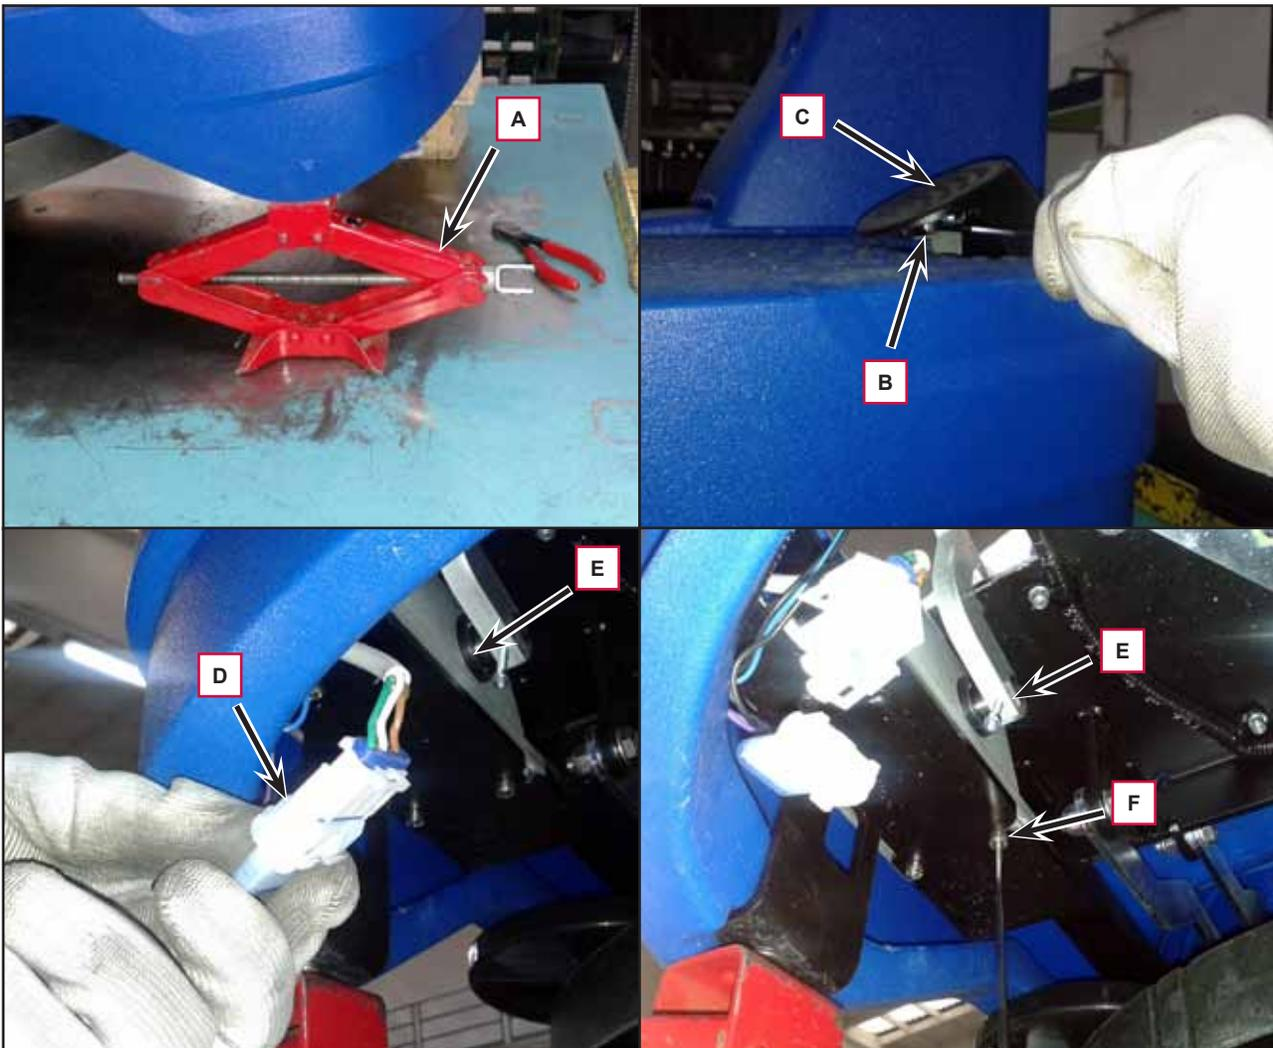

Figure 4
3. Lift the machine as shown (A, Figure 4).
4. Remove the 2 screws (B) and disassemble the accelerator pedal (C).
5. Under the machine disconnect the connection (D) of the drive pedal potentiometer (E).
6. Remove the 3 screws (F), then disassemble the drive pedal potentiometer (E).